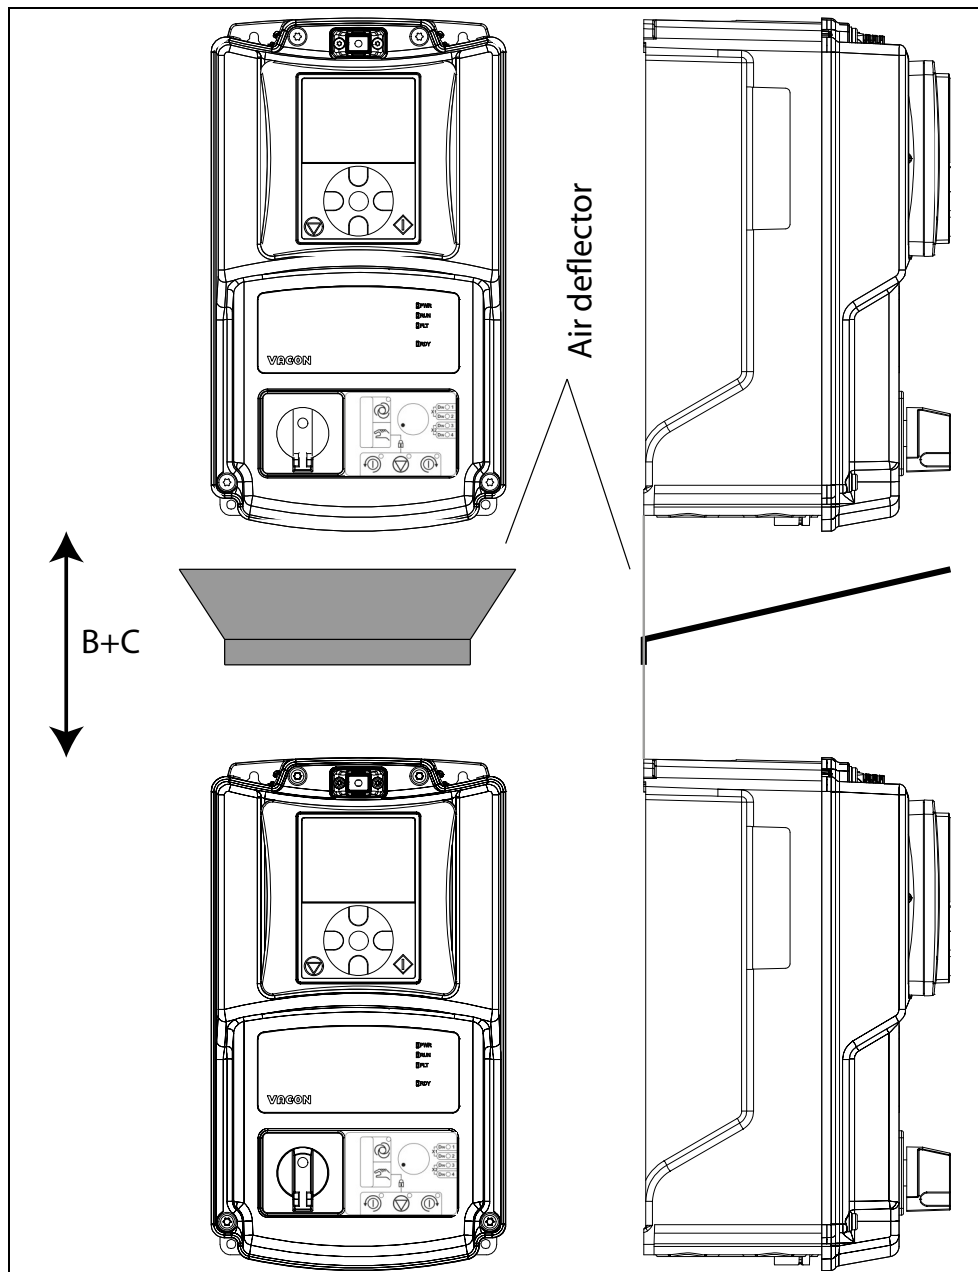

Figure 9. Installation space when drives are mounted on top of each other.
**Note** that if several units are mounted **above** each other the required free space equals B+C (see the Figure 9.). Moreover, the outlet air used for cooling by lower unit must be directed away from the air intake of the upper unit by means of e.g. a piece of metal plate fixed to the wall between the drives as shown in Figure 9..